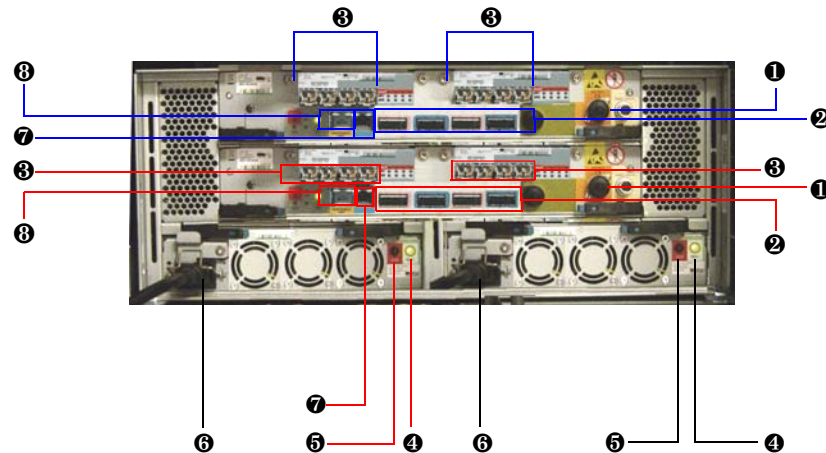

Figure 1-8: Rear View of the Fibre Channel Hitachi AMS 2500 Base Unit
- ❶ Controller #0
- ❷ Controller #1
- ❸ Base unit
- ❹ Expansion units (ENC0, ENC1)
- a. Make the connections to the rear panel of the base unit (see Figure 1-8).